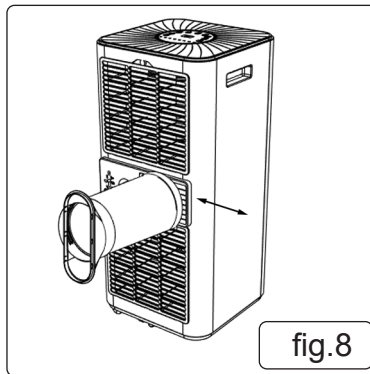

fig.8
- 5.4.2. Attach the hose connector on the hose assembly to the exhaust outlet (fig.1 #7) by sliding the it horizontally into position (fig.8).